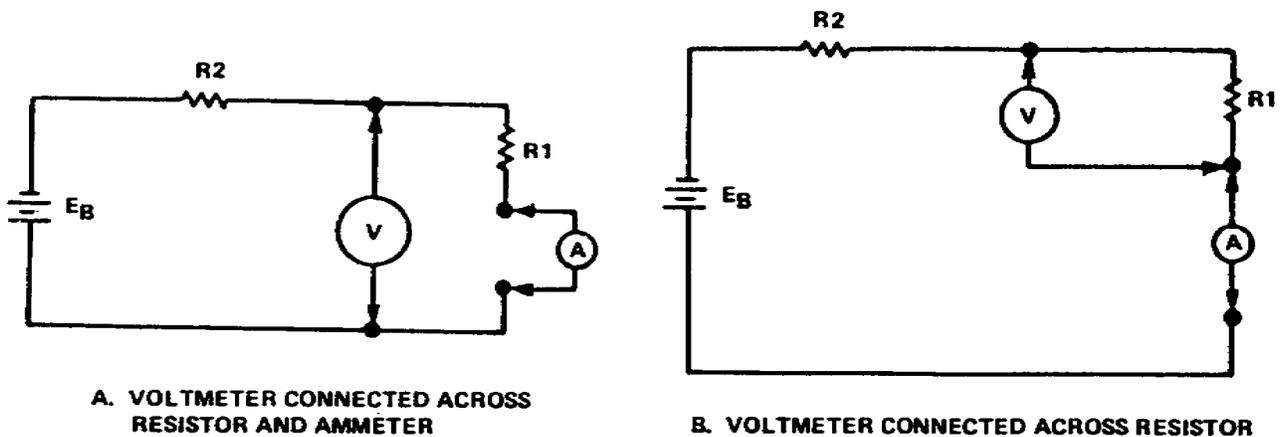

Figure 1-11. Measuring current and voltage simultaneously
a. One is the voltmeter-ammeter method. Connect the voltmeter and ammeter (fig 1-11(a)). After connecting the meters, use the voltmeter and ammeter reading to calculate resistance by Ohm's law.
When power is applied, the voltage ( $E_m$ ) across the meter can be read on the voltmeter. Then by shorting out resistor  $R_x$  (fig 1-11), the voltmeter indicates the applied voltage ( $E_b$ ). Thus the voltage ( $E_x$ ) across the unknown resistor is equal to the difference between the two measured voltages.